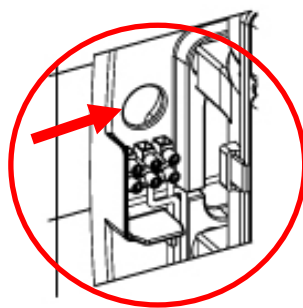

Figure 5
- Pass the electrical cables from the power grid through the 0.87" (22 mm) diameter hole which is situated above the device's terminal strip (Figure 5).